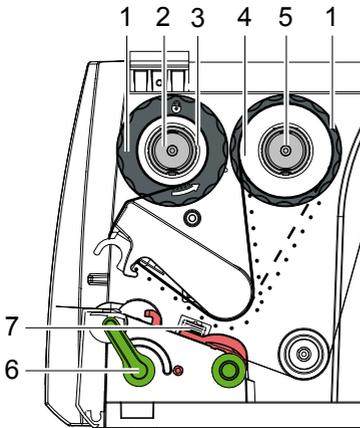

Fig. 10 Transfer Ribbon Feed Path
5. Adjust position of the guide on the take-up hub to the width of the ribbon core (3) and push ribbon core on the take-up hub.
6. Guide transfer ribbon through the printing unit as shown in Fig. 10.